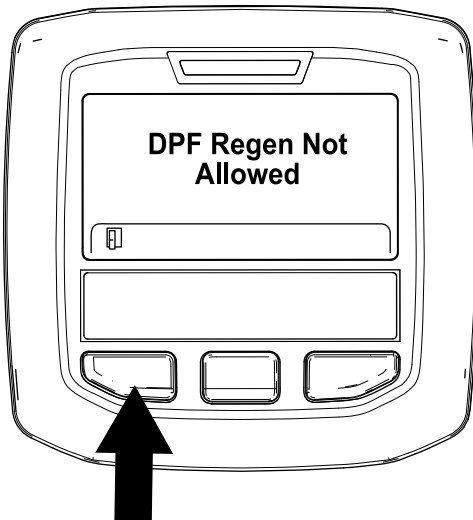

Figure 55
- If the regeneration process is not allowed by the engine computer, the “DPF Regen Not Allowed” message displays in the InfoCenter (Figure 55). Press the left button to exit to the home screen